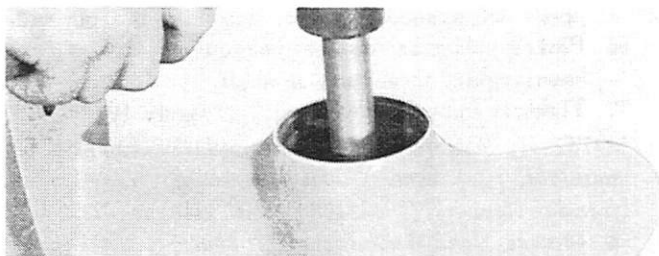

Figure 11. Installing Propeller Shaft Cartridge Bearing
3. Press propeller shaft cartridge bearing in until it bottoms. (Figure 11)